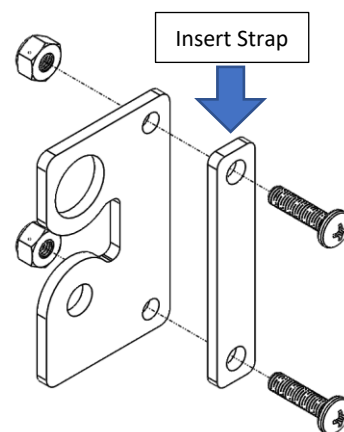

Figure 10: Adjustable Strap Clamp Assembly
26. Install the adjustable door strap onto the hard stop bracket using the strap clamp to secure it. Feed the strap clamp through the largest eyelet in the strap and bolt it to the hard stop bracket. Direct the strap towards the lower hinge when tightening down the clamp. Reference Figure 10 and 11.